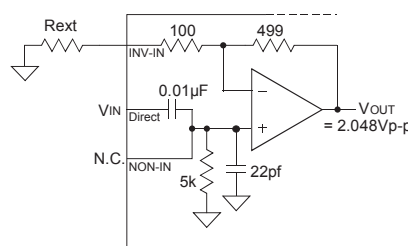
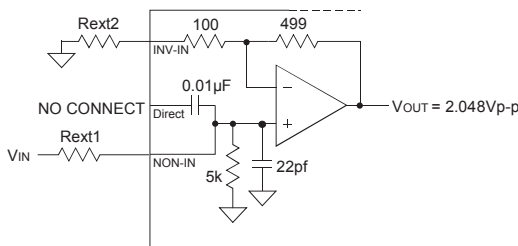
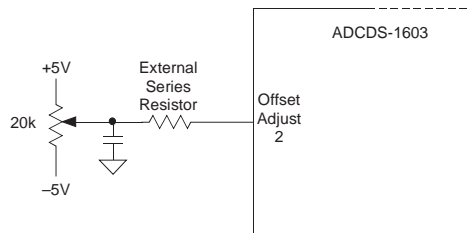

Figure 2b. Direct Mode
Figure 2d. Non-inverting Mode
Figure 3. Offset Adjustment Circuit
- Offset adjustment resistor (Figure 3),  $R_{ext}$  (Figure 2b, 2c, & 2f), and  $R_{ext1}$  &  $R_{ext2}$  (Figure 2d) should be placed as close to the ADCDS-1603 as possible.
When applying inputs that are less than 2.048Vp-p, a coarse gain adjustment (applying an external resistor to Inverting Input) must be performed to ensure that the full scale pixel data input signal (saturated signal) produces 2.048Vp-p signal at the input-amplifier's output ( $V_{OUT}$ ) (See figure 2b & 2c).
The ADCDS-1603 achieves its specified accuracies without the need for external calibration. If required, the device's small initial offset error can be reduced to zero using the OFFSET ADJUST feature (See figure 3). For fine gain adjustment model, contact the factory.
Figure 2b. describes the configuration for applications using a pixel data input signal with an amplitude greater than 0.342Vp-p and less than 2.048Vp-p. Using a single external series resistor, the coarse gain of the ADCDS-1603 can be set. The coarse gain of the input amplifier can be determined from the following equation:  $V_{OUT} = 2.048Vp-p = V_{IN} * (1+(499/(100+R_{ext})))$  (all internal resistors having a 0.1% tolerance).
Figure 2d. describes the typical configuration for applications using a pixel data input signal whose amplitude is greater than 2.048Vp-p. Using a single external series resistor (Rext 1) in conjunction with the internal 5K (1%) resistor to ground, an attenuation of the input signal can be achieved. The coarse gain of this circuit can be determined from the following equation:
Manual offset adjustment for the ADCDS-1603 can be accomplished using the adjustment circuit shown in Figure 3. A software controlled D/A converter can be substituted for the 20KΩ potentiometer. The offset adjustment feature allows the user to adjust the Offset/Dark Current level of the ADCDS-1603 until the output bits are 0000 0000 0000 0000 and the LSB flickers between 0 and 1. The ADCDS-1603's offset adjustment is dependent on the value of the external series resistor used in the offset adjust circuit (Figure 3) and the gain of the input-amplifier.